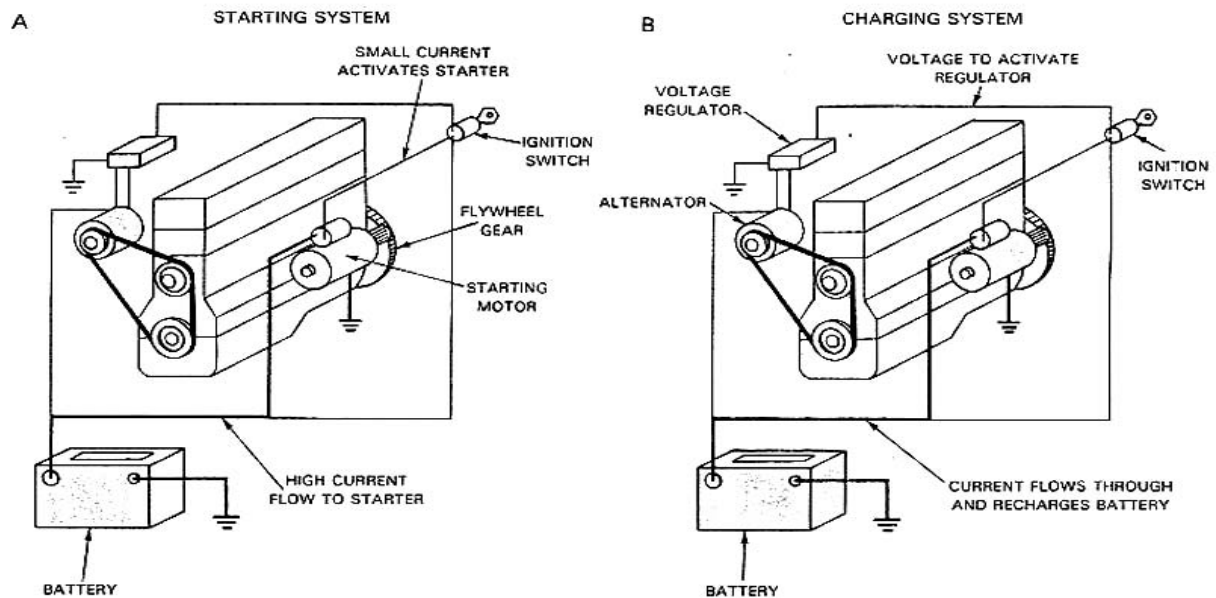

Рис. 7
The *starting system* (A) (рис. 7) has an electric motor that rotates the engine crankshaft until the engine starts and runs on its own power.
The *charging system* (B) (рис.7) is needed *to replace* electrical energy drawn from the battery during starting system operation. *To reenergize* the battery, the charging system forces electric current back into the battery.